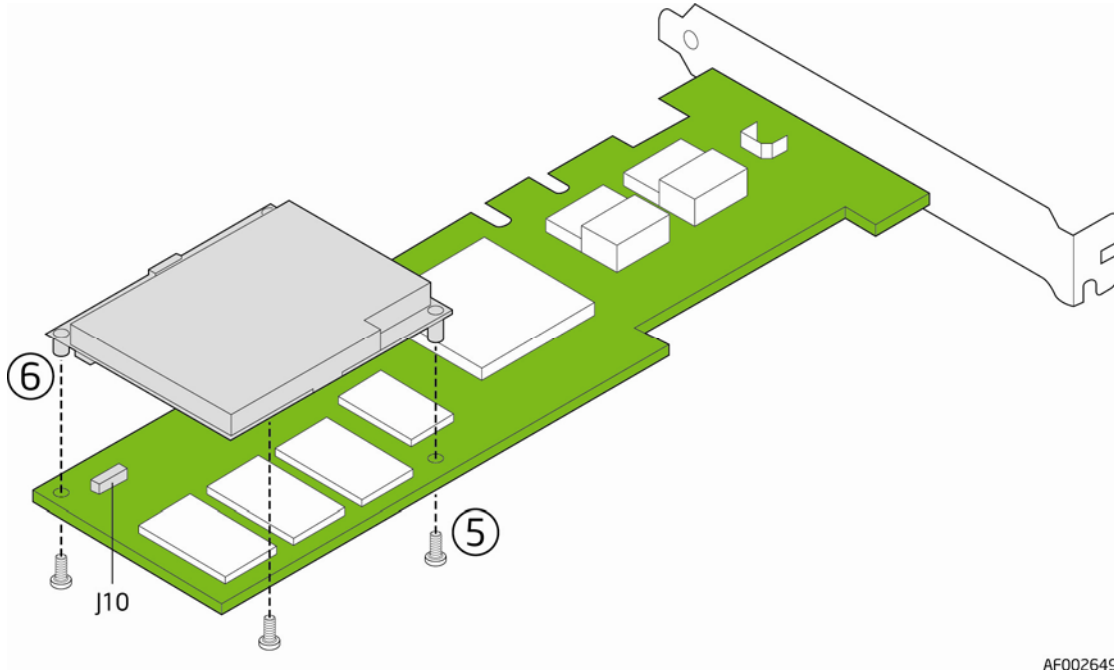

Figure 2. Battery alignment on the add-in Intel® RAID Controllers
- Figure 2. Battery alignment on the add-in Intel® RAID Controllers 5